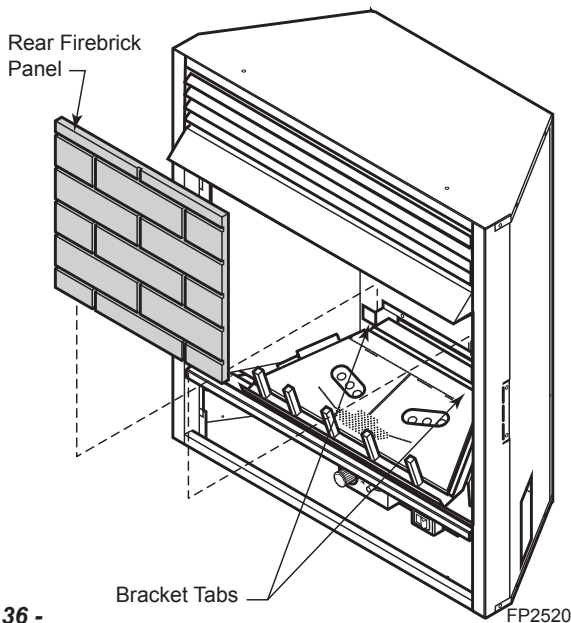

Figure 36 - Install Back Firebrick Panel
4. Place rear firebrick panel on back wall of firebox. Set bottom of panel behind the bracket tabs of the grate. *Figure 36*